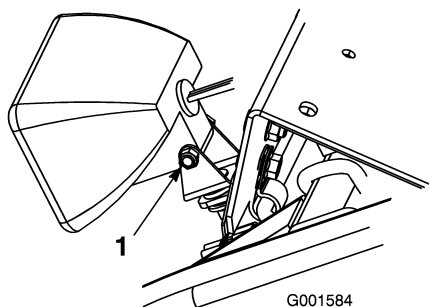

Figure 20
6. Set each lamp to the desired position and tighten the nut on the lamp bracket (Figure 20).